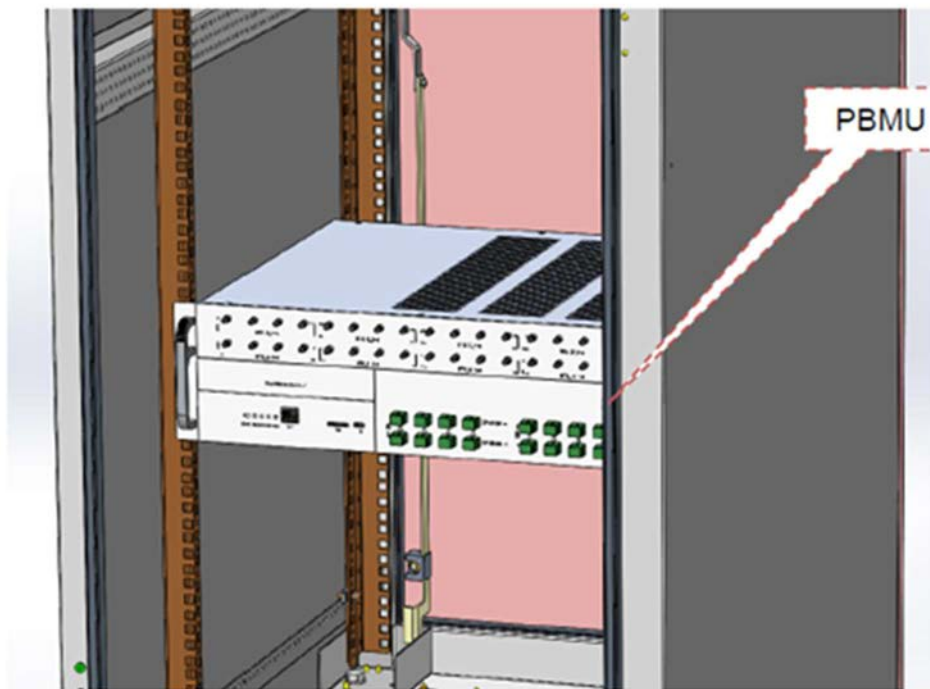

Figure 3-3 Push PBMU into the ca
2. Push PBMU into the cabinet. as shown in Figure 3-3